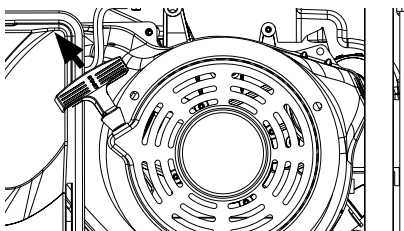

Figure 12 - Pull recoil
7. Firmly grasp and pull the recoil handle slowly until you feel increased resistance. At this point, apply a rapid pull while pulling up and slightly away from the generator (see Figure 12).